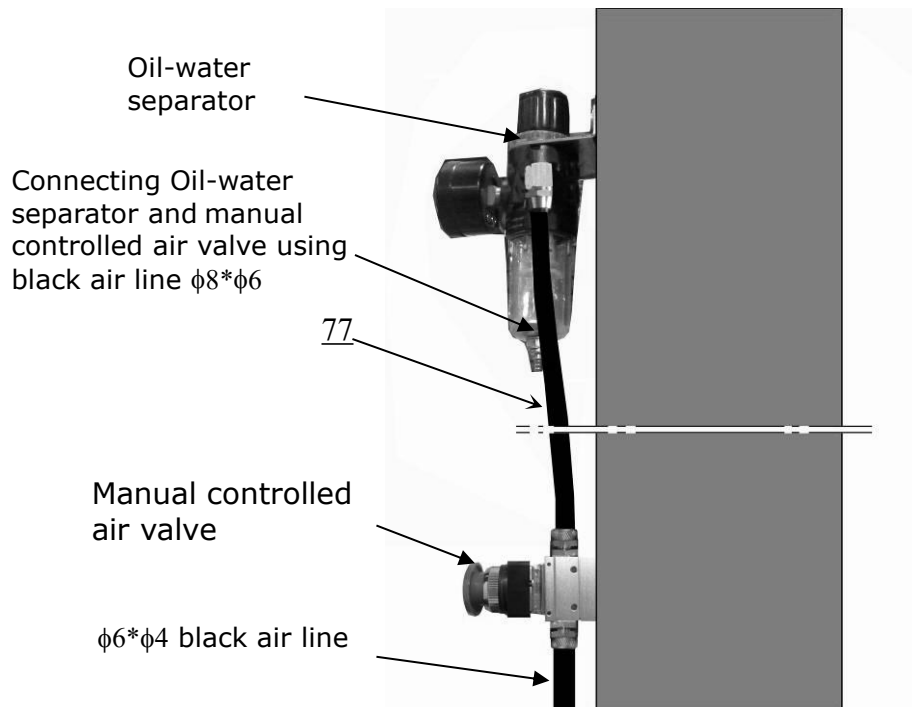

Fig. 31
5. Install oil-water separator and manual control air valve. (see **Fig.31**)